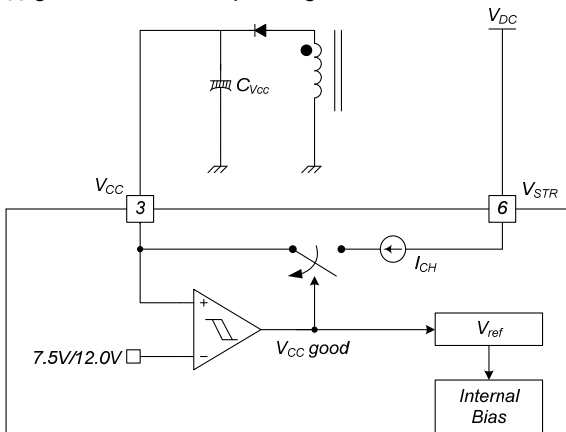

Figure 17. Startup Block
1. Startup: At startup, an internal high-voltage current source supplies the internal bias and charges the external capacitor (C_{VCC}) connected to the V_{CC} pin, as illustrated in Figure 17. When V_{CC} reaches 12V, the FSD176MRT begins switching and the internal high-voltage current source is disabled. The FSD176MRT continues normal switching operation and the power is supplied from the auxiliary transformer winding unless V_{CC} goes below the stop voltage of 7.5V.